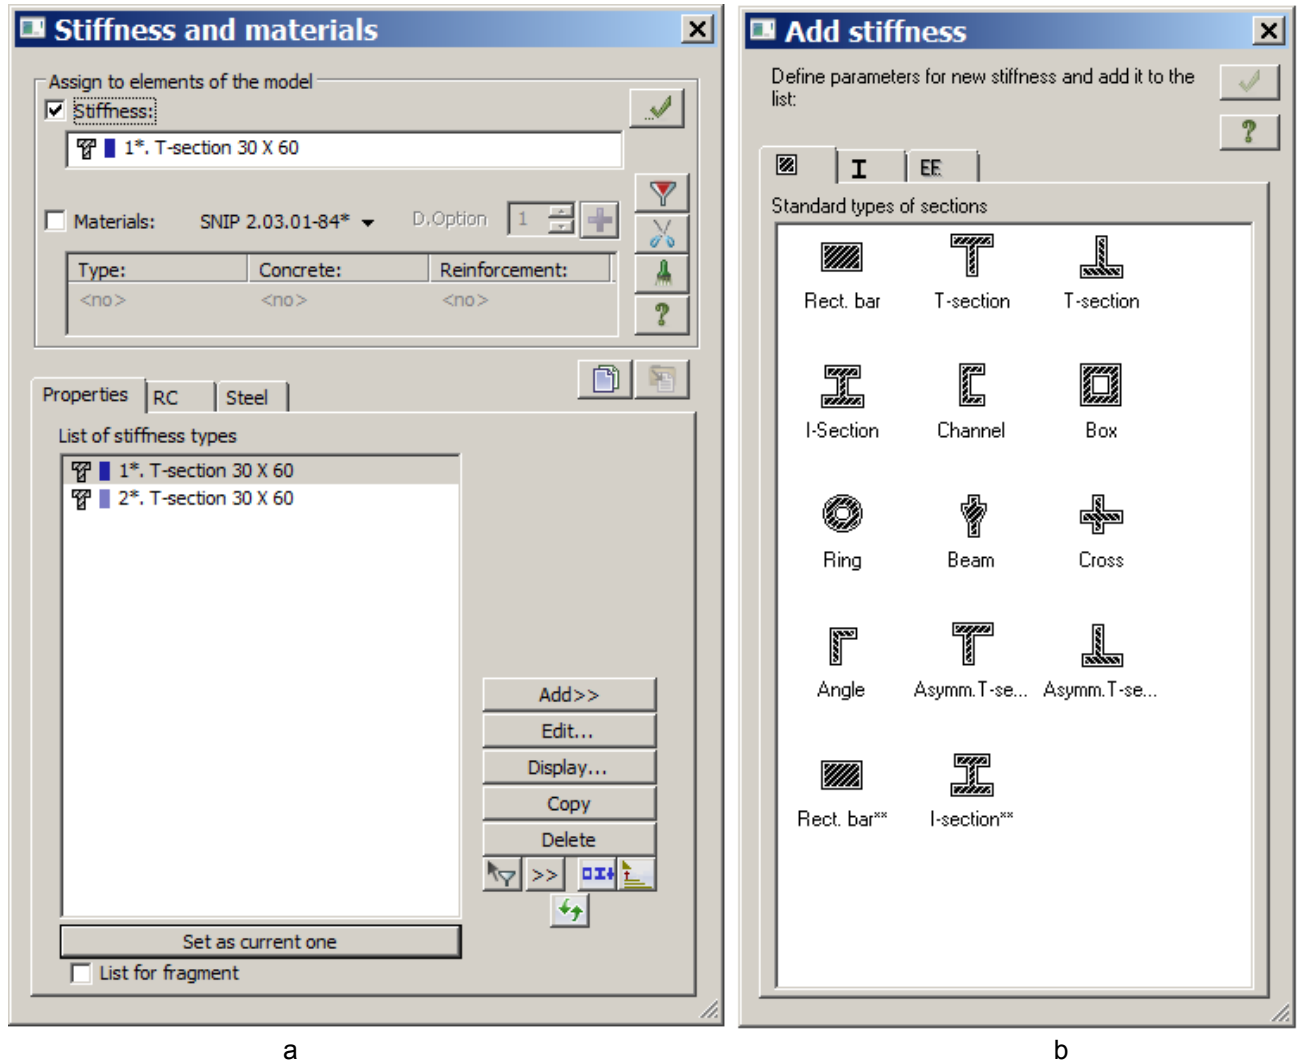

Figure 7.11 Dialog boxes: a – **Stiffness and materials**, b – **Add stiffness**
- ⇒ In the **Stiffness of elements** dialog box (see Figure 7.11), in the **List of stiffness types**, select '1\*.T-section 30x60'.